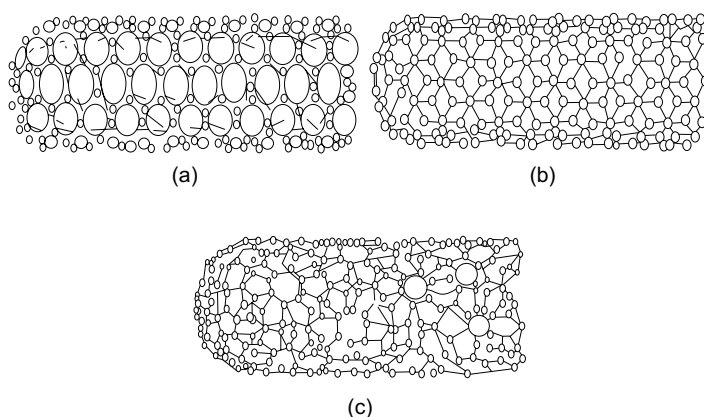

Fig. 4.23 Structures of carbon nanotubes: (a) arm chair, (b) zigzag, and (c) chiral
- (c) *Electrical properties:* Nanomaterials shows electrical properties vary between semiconducting to metallic depending upon the diameter and chirality of the molecules. For example, carbon nano tubes reveal electrical properties and act as semiconducting and metallic nature on the basis of chirality and diameter of a tube. Carbon nano tubes have been identified and show three structures, namely, arm chair, zigzag and chiral structure (see Fig. 4.23)